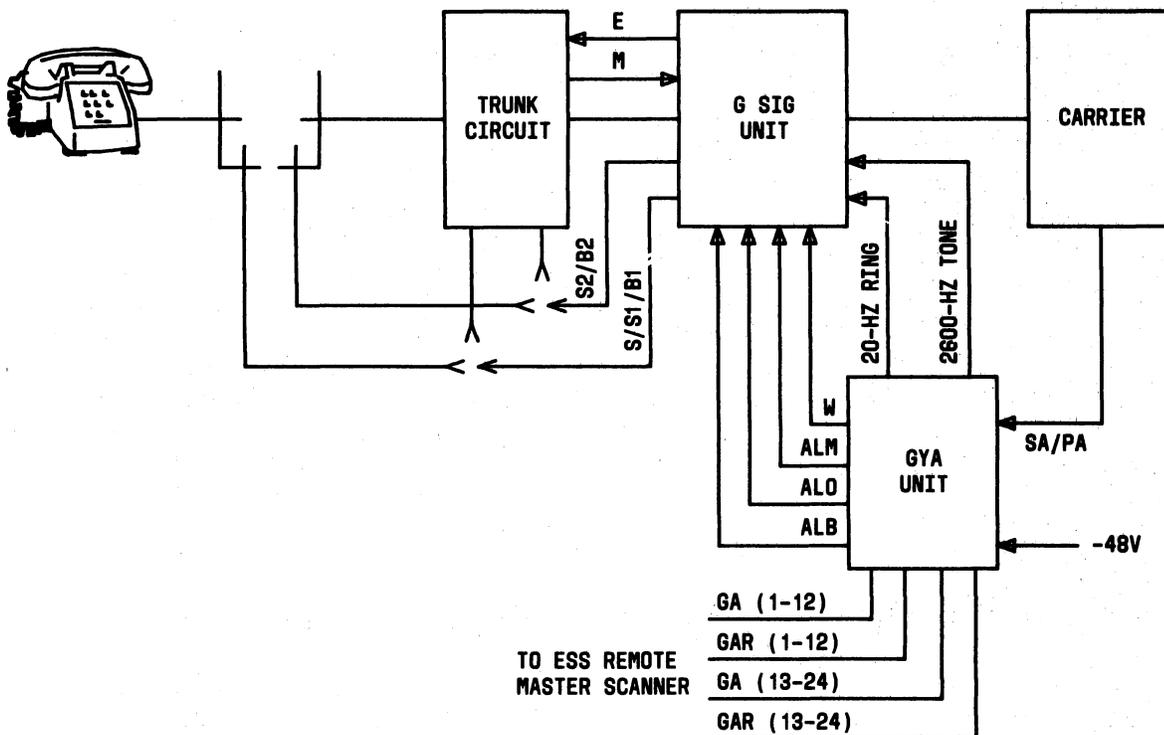

Fig. 2—Typical Application of GYA Unit
the GYA unit provides the trunk release and make-busy functions. This protects the switching network by preventing massive office seizures. The trunk release function will also terminate calls in progress, thereby preventing the customer from being erroneously charged. A typical CGA application is shown in Fig. 2.
**5.01** The GYA unit is designed specifically for use in the G module and the associated carrier and trunk equipment. A typical CGA application of the GYA unit is shown in Fig. 2.